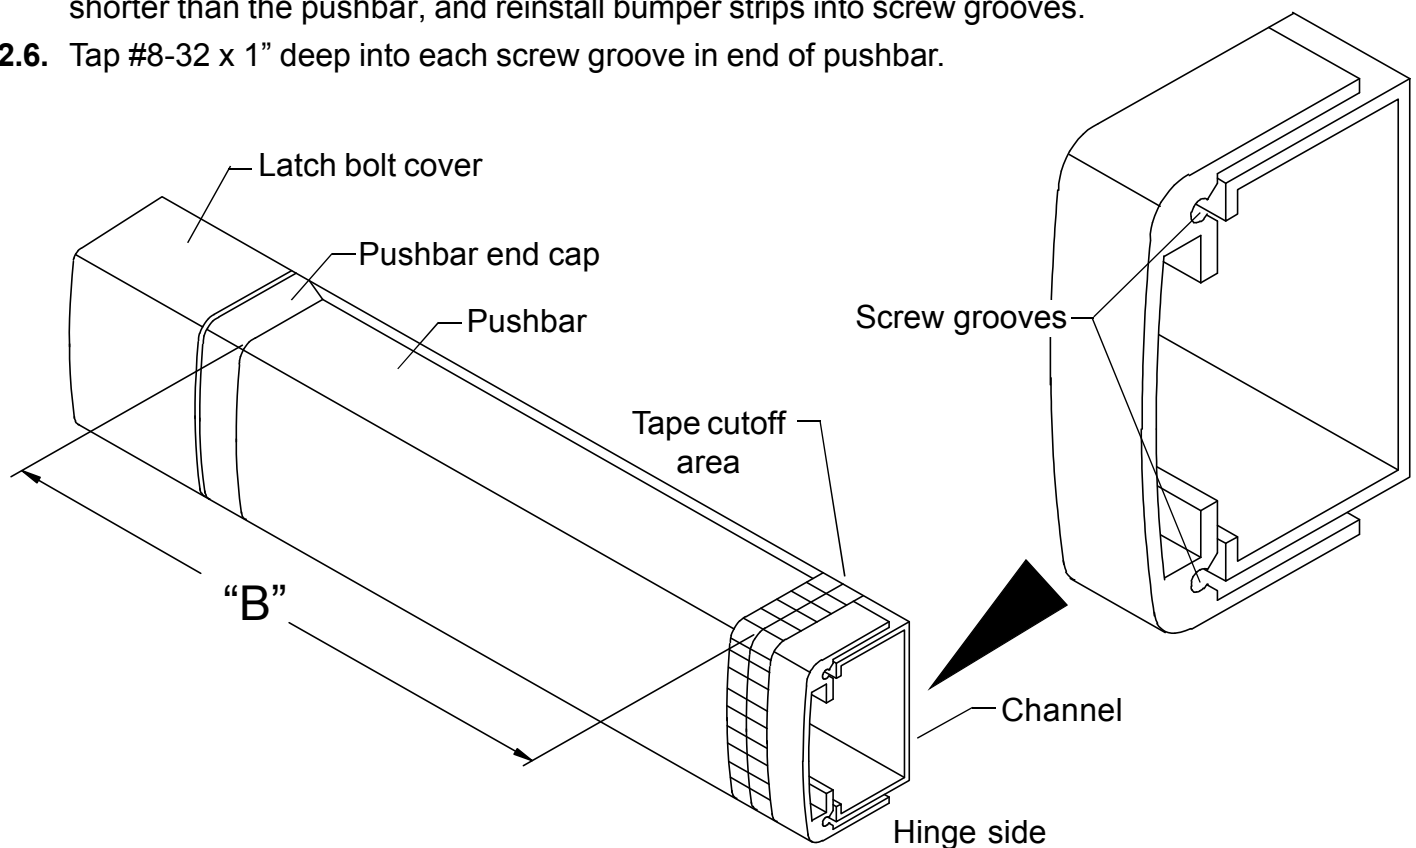

Figure 2
- 2.2. Subtract $2\text{-}13/16$ ” from “D” dimension to determine cut length (“B” dimension in Figure 2).
- 2.3. Collapse pushbar, tape down in cutoff area, and mark “B” dimension on tape (see Figure 2).